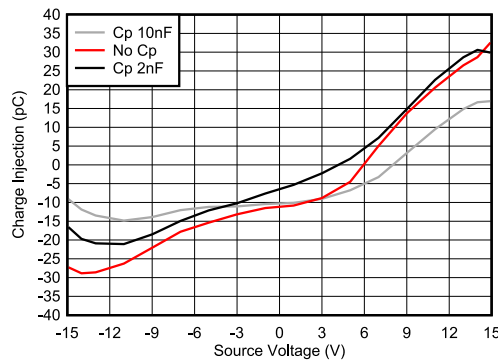

Figure 8-2. Charge Injection Compensation
The TMUX7219M contains specialized architecture to reduce charge injection on the source (Sx). To further reduce charge injection in a sensitive application, a compensation capacitor (Cp) can be added on the drain (D). This will ensure that excess charge from the switch transition will be pushed into the compensation capacitor on the drain (D) instead of the source (Sx). As a general rule, Cp should be 20× larger than the equivalent load capacitance on the source (Sx). Figure 8-2 shows charge injection variation with source voltage with different compensation capacitors on the drain side.